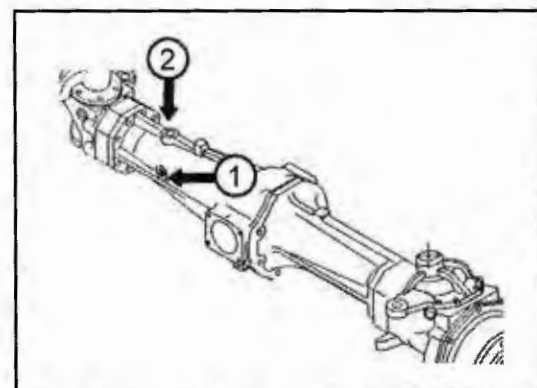

Fig. 38-4 - Front Axle
Remove level plug (1). Oil should be level with plug bore. If necessary, fill the housing through the filler hole (2) until oil comes out of the oil level hole. Tighten level plug. (See Fig. 38-4).